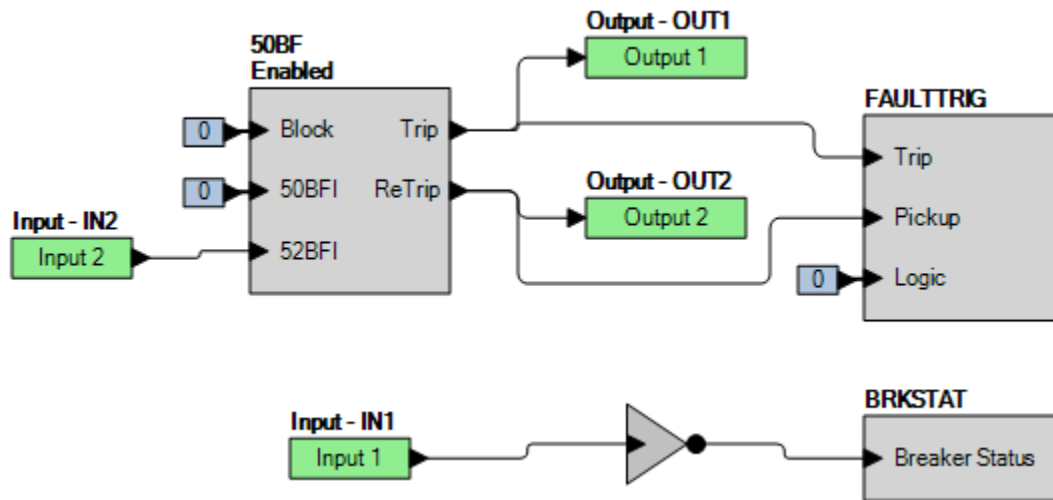

Figure 64-1. BESTlogicPlus Settings (BF152 Contact Initiate)
Step 2: Use BESTCOMSP*lus* to configure the BESTlogic*Plus* programmable logic shown in Figure 64-1.